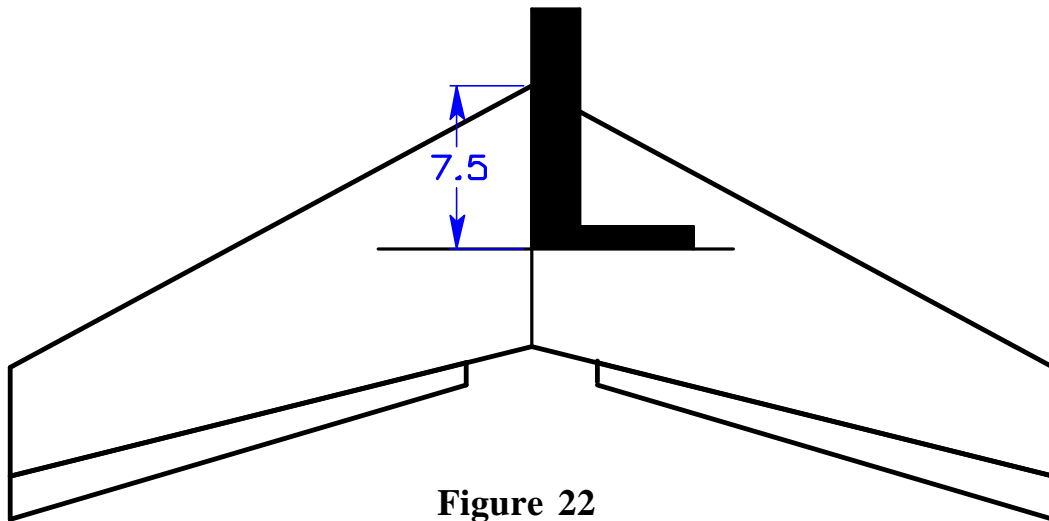

**Figure 20**
**Attach Winglets** Punch-out and separate the two nested clear plastic winglets. Punch-out the 1 1/4" x 1/4" slot in the winglet. (See **Figure 20** )